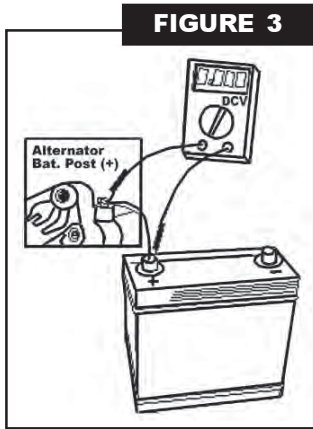

FIGURE 3
- ◆ Using the voltmeter, measure the voltage drop between the batty positive post (+) and the alternator output post (See figure 3). Voltage should be less that 0.40VDC. If voltage is higher that 0.40VDC, check for poor connections between the alternator and the battery. Possible causes are unsized battery cables, loose or improperly crimped terminals, and corroded connections.